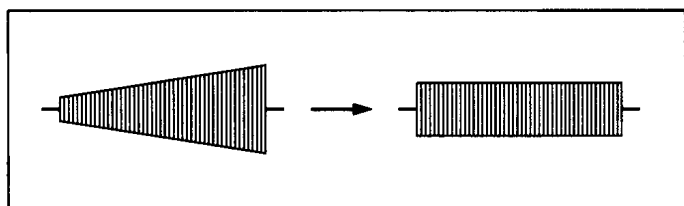

Fig. 3-2-5 PB FM
- Adjust by pressing the "M+D" or "M+E" buttons of the presetting unit for FM waveform is flat as shown in Fig. 3-2-5.
- Repeat steps (3) and (7) in the LP 1/6 FWD slow mode.